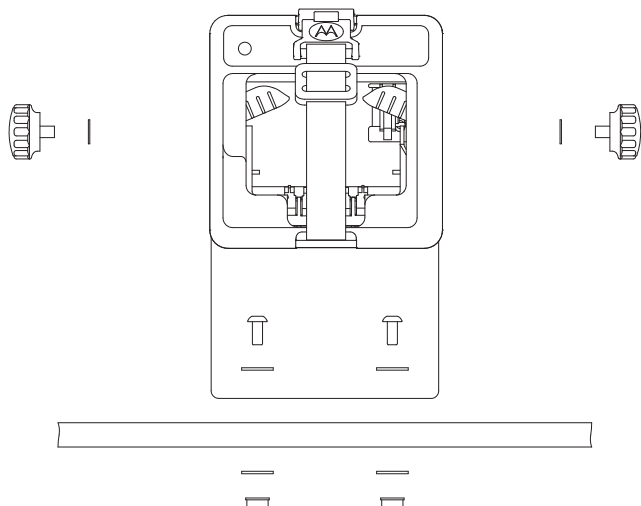
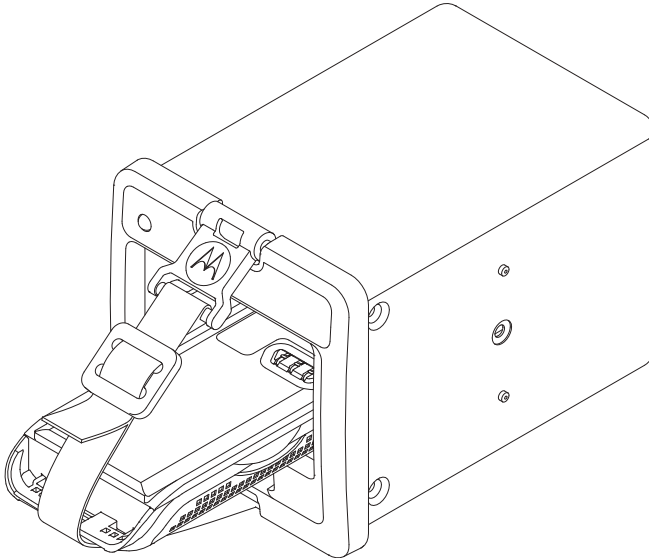

Figure 1 Installing the Vehicular Charger
Figure 5 Battery without Radio
4. Referring to Figure 1, mount the bracket using appropriate screws, washers, lock washers, and nuts.
5. Insert the unit into the bracket, and install the washer and threaded knob into the housing, as shown in Figure 1.
For charging a battery that is not attached to a radio, loop the strap over the top of the battery, then engage the latch onto the Top Engagement Bar on the Faceplate. Adjust the strap through the Tri-Glide to secure battery within Vehicular Charger (refer to Figure 5).
When the radio/battery are in the charger pocket, fasten the safety strap as shown in Figure 1. If a battery alone is in the pocket, fasten securely as shown in Figure 5. This will prevent the battery from being shaken out of the charger during rough traveling conditions, and will also prevent it from becoming a dangerous projectile in the event of a vehicle crash.